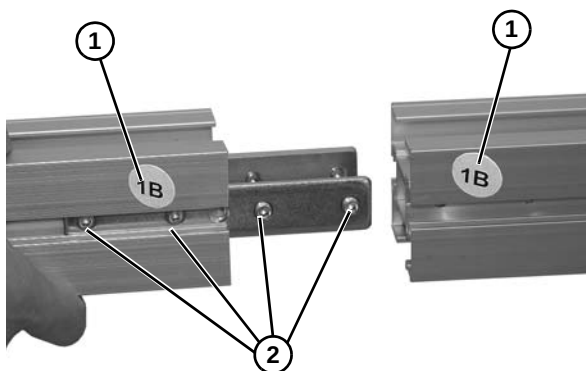

Figure 4
1. Locate and arrange conveyor sections by section labels (**Figure 4, item 1**).
2. Join both conveyor sections, and tighten two set screws (**Figure 4, item 2**) on both sides. Tighten all set screws 1/4 turn past contact with frame.